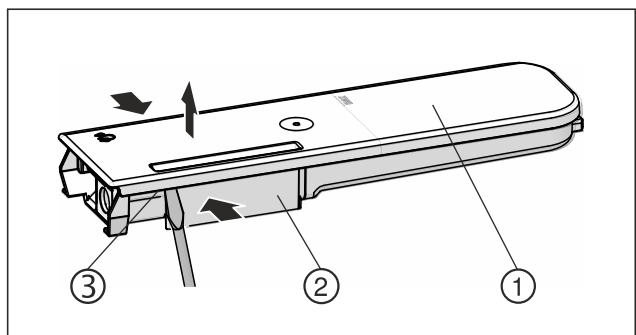

Fig. 122
- Push the water tanks Fig. 122 (2) together, leverage the cover Fig. 122 (1) carefully over the latching tabs Fig. 122 (3) and lift it up.
- Move the cover Fig. 122 (1) slightly forwards and back, and remove to the top.